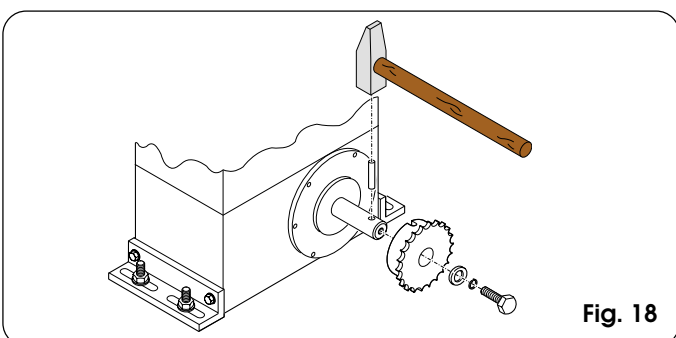

Fig. 18
**4.5.1. MOD. 844 ER CAT (Figs. 18 - 19)**